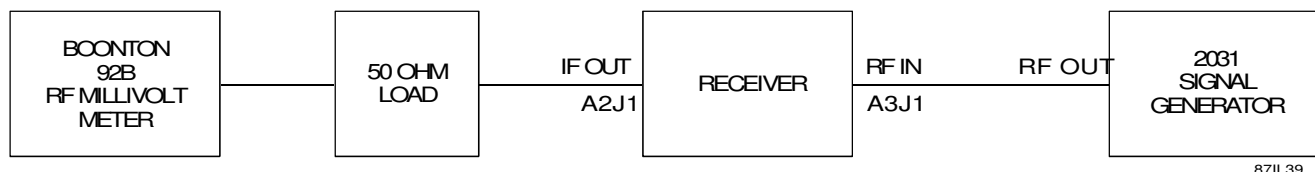

Figure 7-8. Reconstructed IF Output Performance Test Equipment Connection
1. Connect the WJ-8711A Receiver and test equipment as illustrated in **Figure 7-8**.